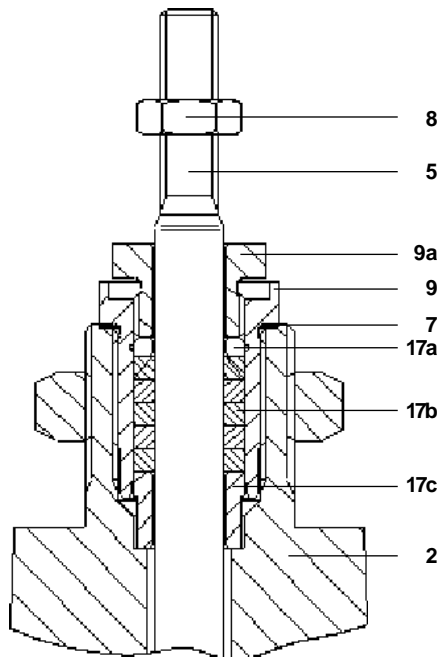

Fig. 5
- g) A new graphite gland seal set (17) should be fitted to the valve, care being taken to avoid damage to the bellows (see Section 4.2.2 for details).
- h) Ensure the gland nut (item 9a, Figure 5) is only **finger tight**.
- i) Ensure that the valve stem (5) moves freely.
- j) Refit the valve lock-nut (8).